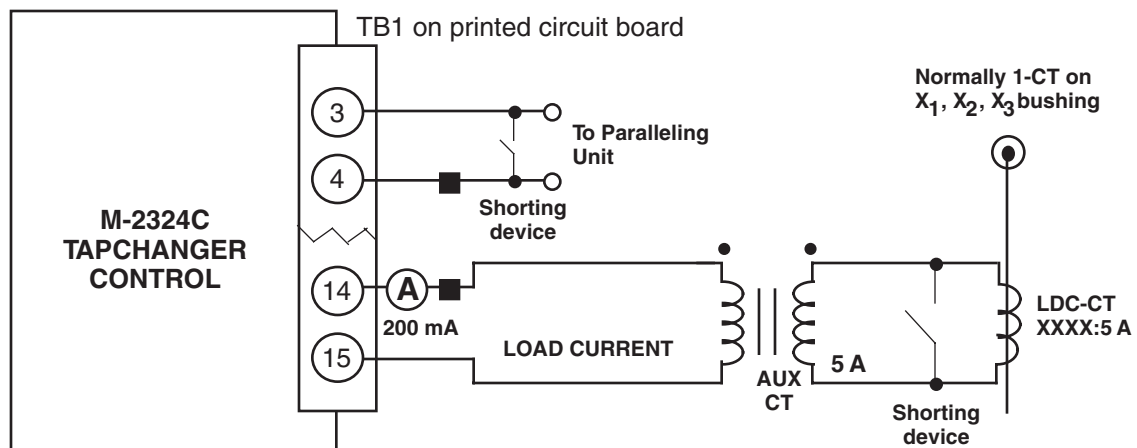

Figure 15 M-2324C Setup for Current Checkout Procedure
1. Short the line drop compensator circuit by placing a shorting device of adequate capacity, across the LDC-CT secondary (See Figure 15).